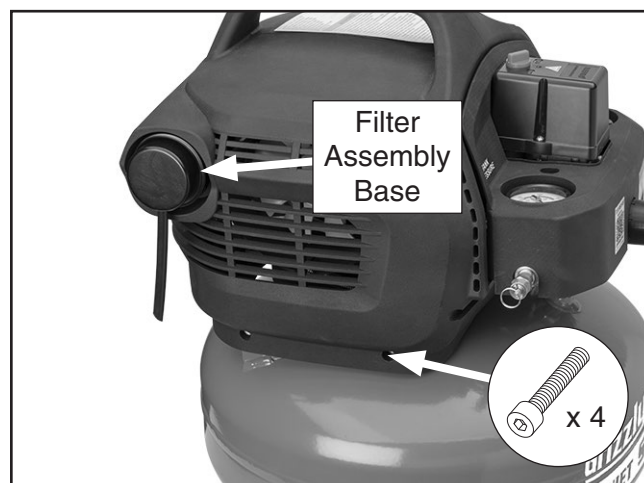

Figure 26. Location of filter assembly base and shroud cap screws.
4. Turn filter assembly base counterclockwise to remove filter assembly (see **Figure 26**).
5. Remove (4) cap screws shown in **Figure 26**.